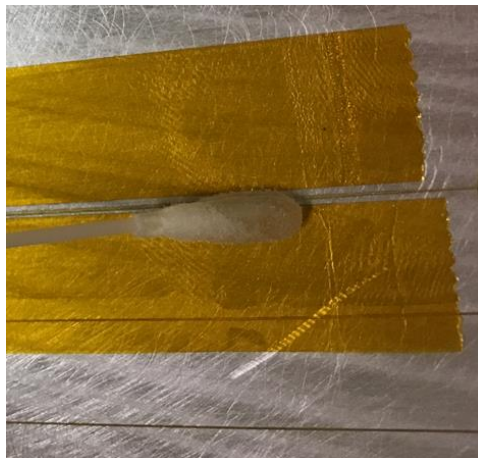

Figure 8: Dispensing epoxy into tape channel on either side of fiber sensor.
3. In some instances, it may be necessary to control the width of the bond line, for example when bonding to soft or thin substrates. This can be done by applying tape on either side of the fiber path and confining the adhesive within this channel (Figure 8).